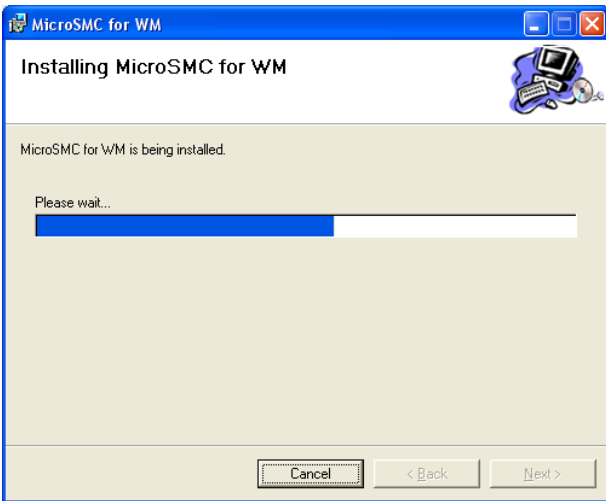
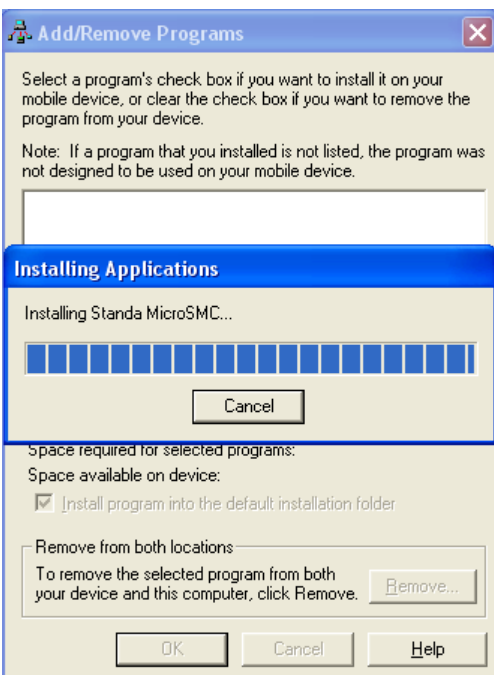

Figure 56. MicroSMC for WM host PC installation 5th screen
Figure 57. MicroSMC for WM Mobile Device installation 1st screen
- Wait until MicroSMC for WM host PC installation process will be done (see Figure 56).
- After the previous step (see Figure 56) ActiveSync Application Manager window will appear (see Figure 57). If nothing happens navigate on host PC to MicroSMC for WM installation folder (usually C:\Program Files\MicroSMC for WM\) and run CEAppMgrSetup.exe application.
- Wait until MicroSMC Mobile Device installation process will be done (see Figure 57).